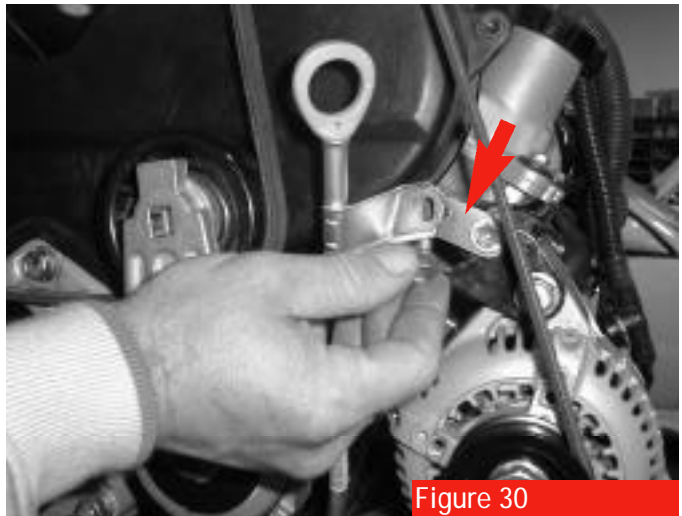

Figure 30
19. Remove the bolt holding the manifold to the intake chamber stay (**see arrow, figure 30**). Save the bolt.
9. Install the TRD-supplied dipstick relocation bracket (**see arrow, figure 30**) utilizing the factory bolt. Reinstall the factory dipstick and attach it to new bracket using the TRD-supplied bolt (6mm x 1.0 x 12mm) .